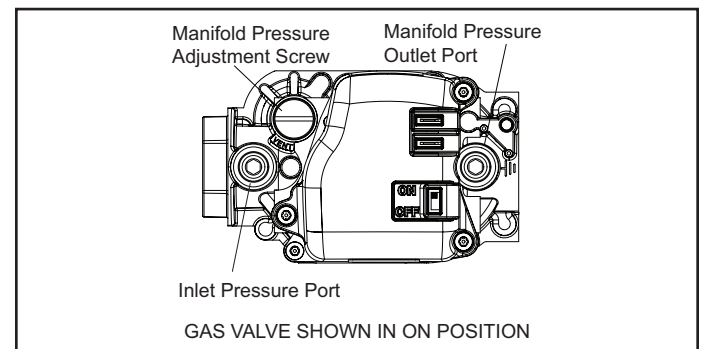
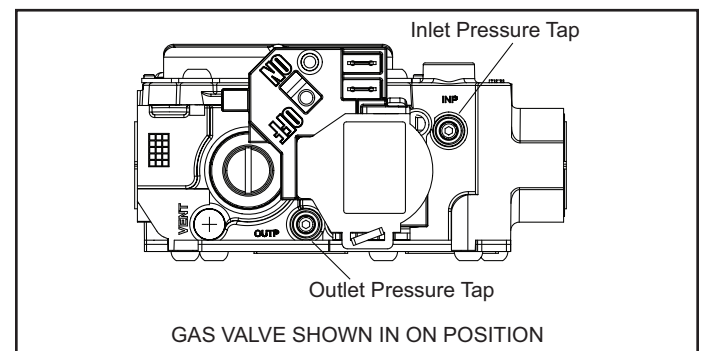

Figure 38. Resideo Gas Valve
Figure 39. White Rodgers Gas Valve
See Figure 38 or Figure 39
6. Move switch on gas valve to OFF. Do not force. See Figure 38 or Figure 39.
8. Move switch on gas valve to ON. Do not force. See Figure 38 or Figure 39.